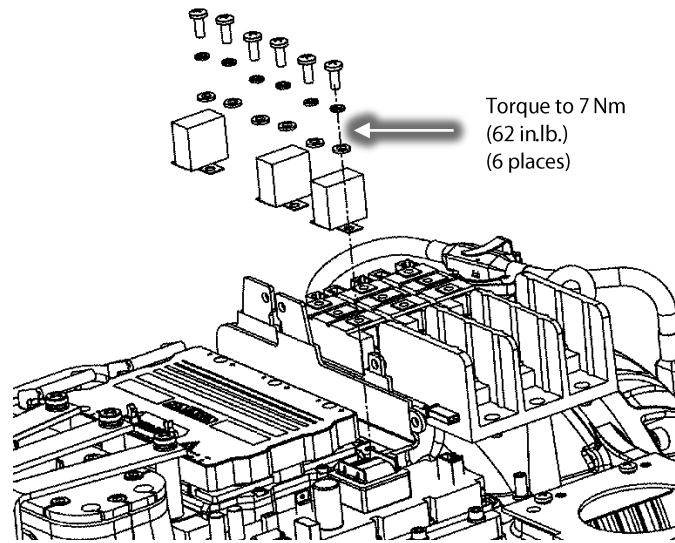

Figure 11 – Snubber Capacitor Removal
20. Disconnect the snubber capacitors from the Inverter noting the leg orientation of one leg is longer than the other. Refer to Figure 11 (Snubber Capacitor Removal).
15. Reconnect the snubber capacitors to the Inverter noting the leg orientation and torque to specification. Starting from the DC Bus Capacitor side, torque to specification. Refer to Figure 11 (Snubber Capacitor Removal).